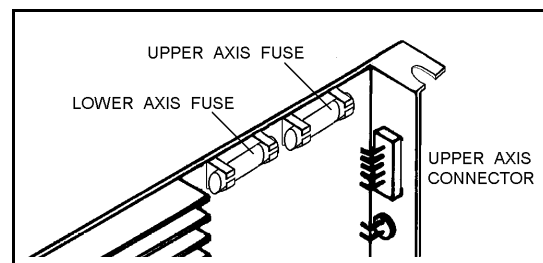

Figure 8-4: Driver Card Fuse
- Check the fuse on the top of the driver card for the faulty axis. (Refer to Figure 8-4). If the fuse has blown, replace it.